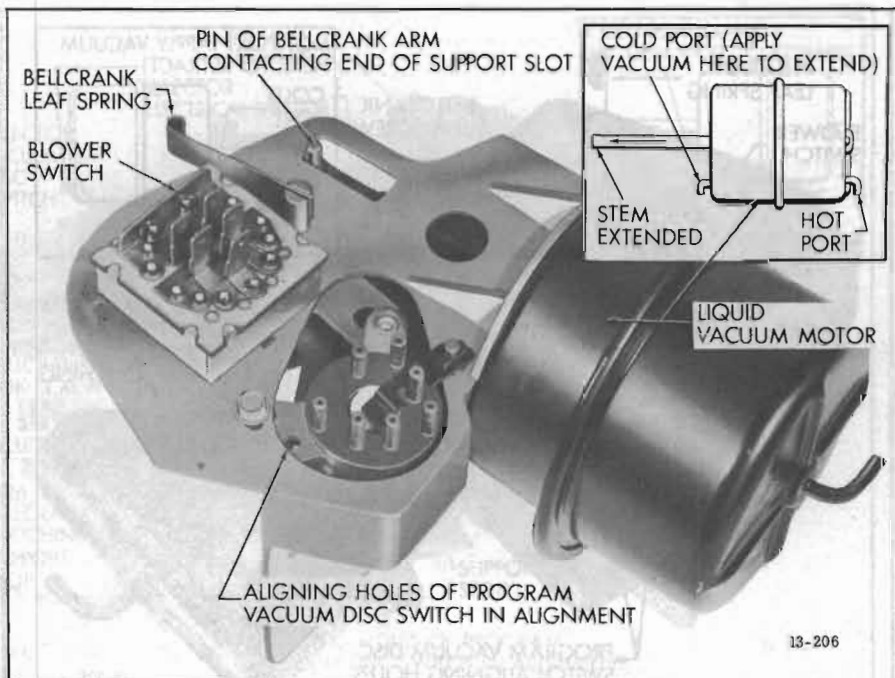

Figure 13-156—Liquid Vacuum Motor with Stem Extended (49000 Series)
3. Apply vacuum (maximum of 10 inches) to cold port of LVM to fully extend stem of LVM (see Figure 13-156) and rotate bell-crank arm in counterclockwise direction until bell-crank contacts stop.